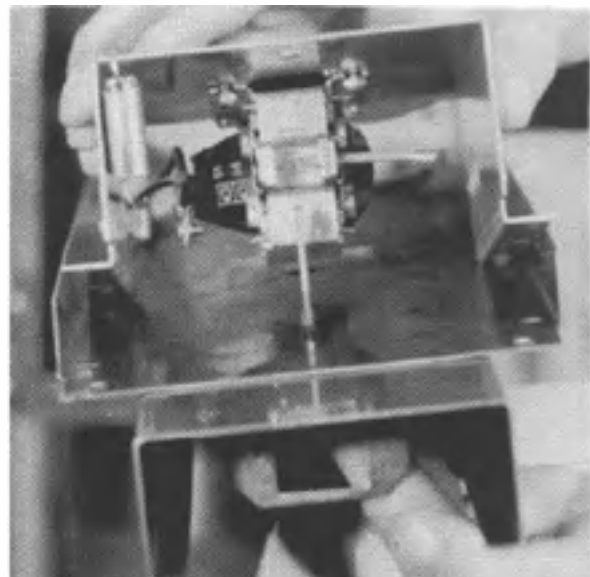

FIG.15
14. With teflon slide in place and weight lifter in upright position, insert weight lifter arm through slot in vent assembly. Insert cotter pin through solenoid plunger and weight lifter arm. Secure cotter pin in place by bending (See Figure 15).